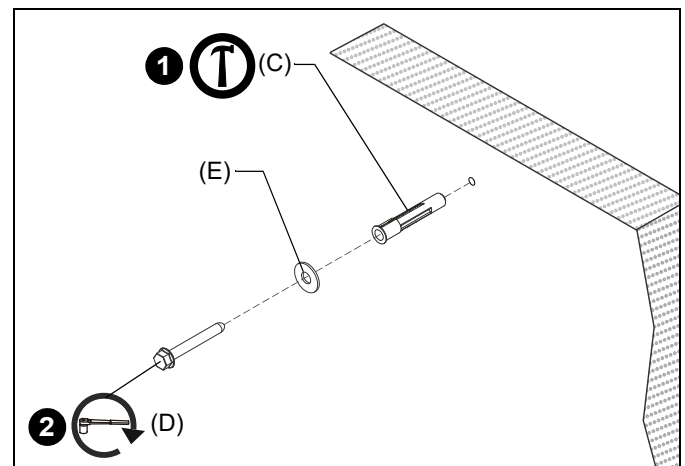

Figure 23
- Install one UX10X60R anchor (C) into each pilot hole using a hammer, making sure that the anchor is flush with the wall. (See Figure 23)
- Use one 5/16" x 2-1/2" hex flange head lag bolt (D) and one 5/16" washer (E) through product into each anchor in wall. (See Figure 23)